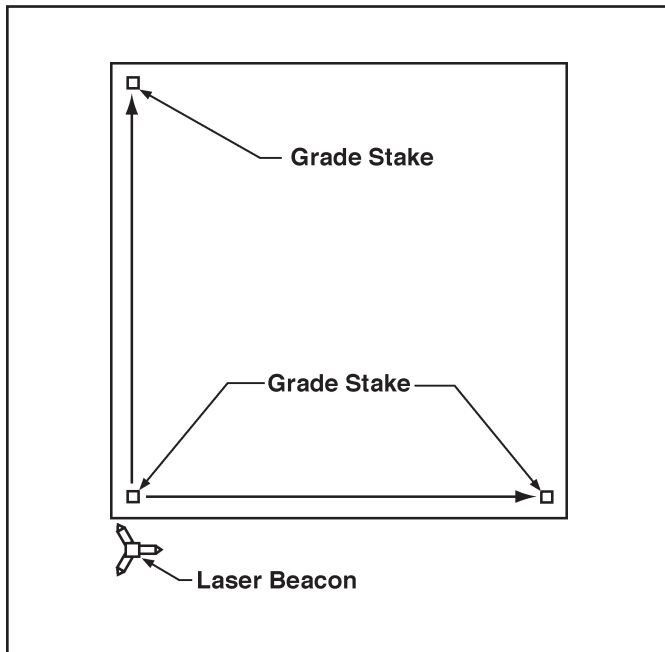

Figure 28. Method Two: Align Rotating Laser with Grade Stakes
2. Place the Rotating Laser a few feet (meters) behind the first grade stake and in line with one of the far grade stakes (it is not critical to align the Rotating Laser exactly). (Refer to Figure 28.)